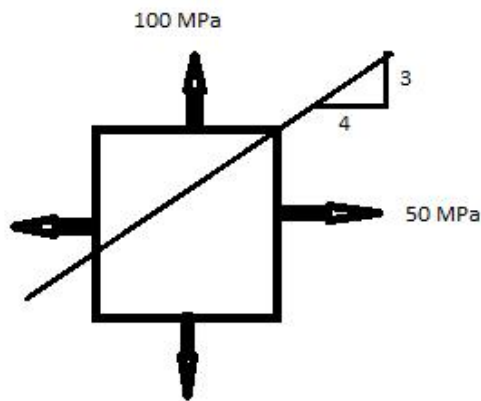

Figure.2
b) At a given point in a machine element, the stress system shown in Figure.2 is acting. Determine the stresses at this point on a plane having a slope of 3 vertical to 4 horizontal.